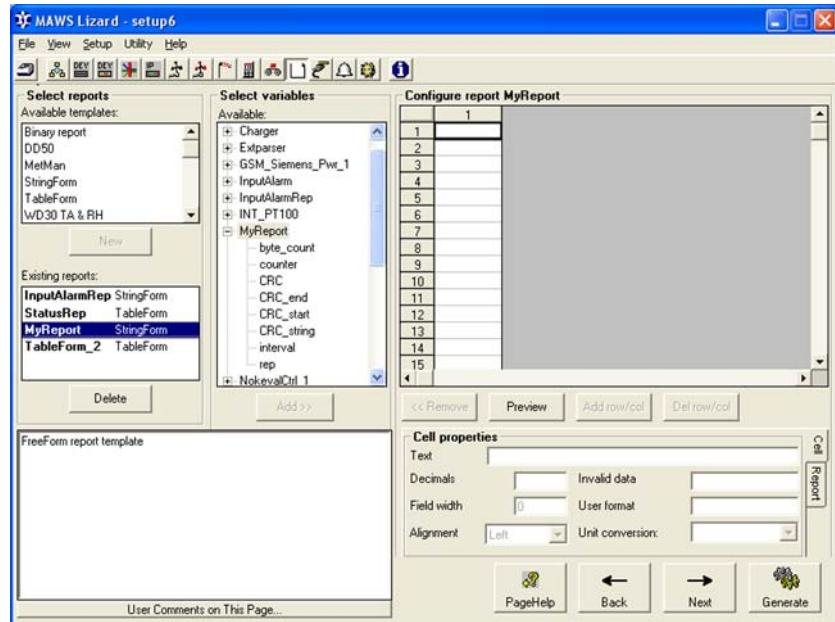

Figure 80 Reports View: Configuring New Checksum Report
1. In the **Reports** view, open the available variables in the **Select Variables** frame. The configurable checksum report in this example is MyReport; see Figure 80 on page 167.